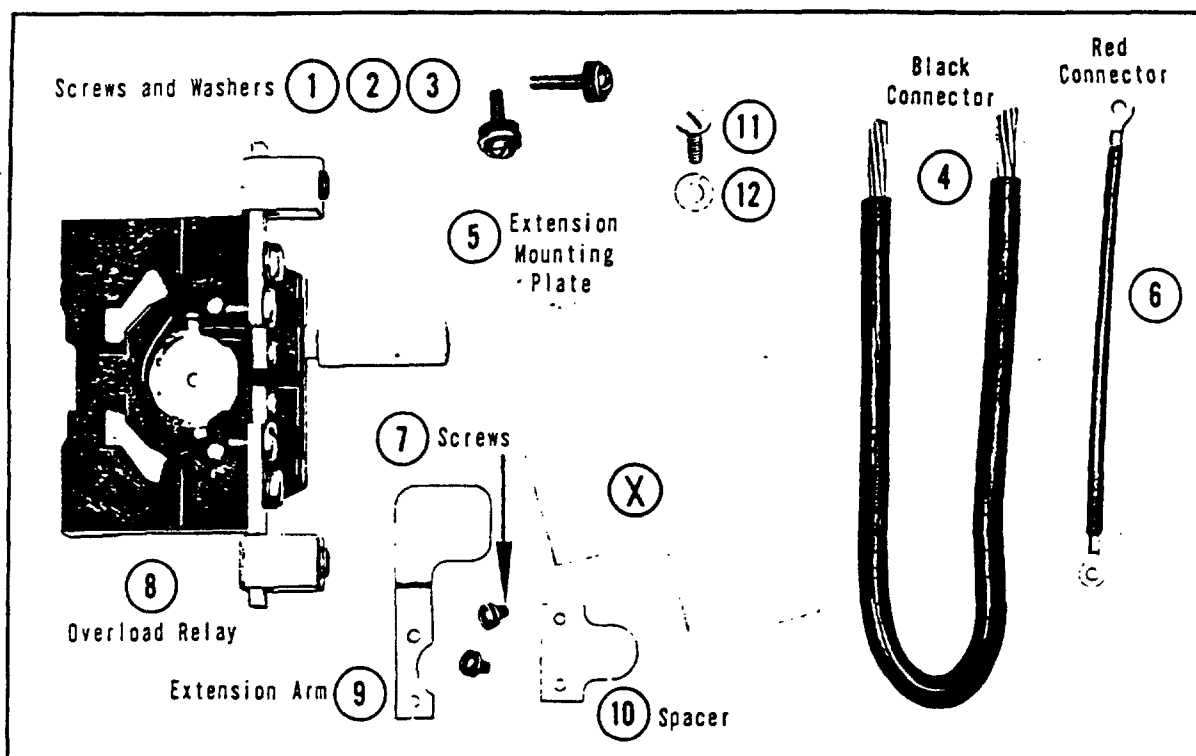

Figure 1. Component Parts of 3rd Overload Relay Kit
3. Remove right hand overload relay from starter by removing two mounting screws. Cut away insulation plate to first score mark. Using screw and lockwasher (11) and (12) place screw (11) thru clearance hole
("X" in Fig. 1) in extension mounting plate (5) and screw into middle tapped hole in main base.